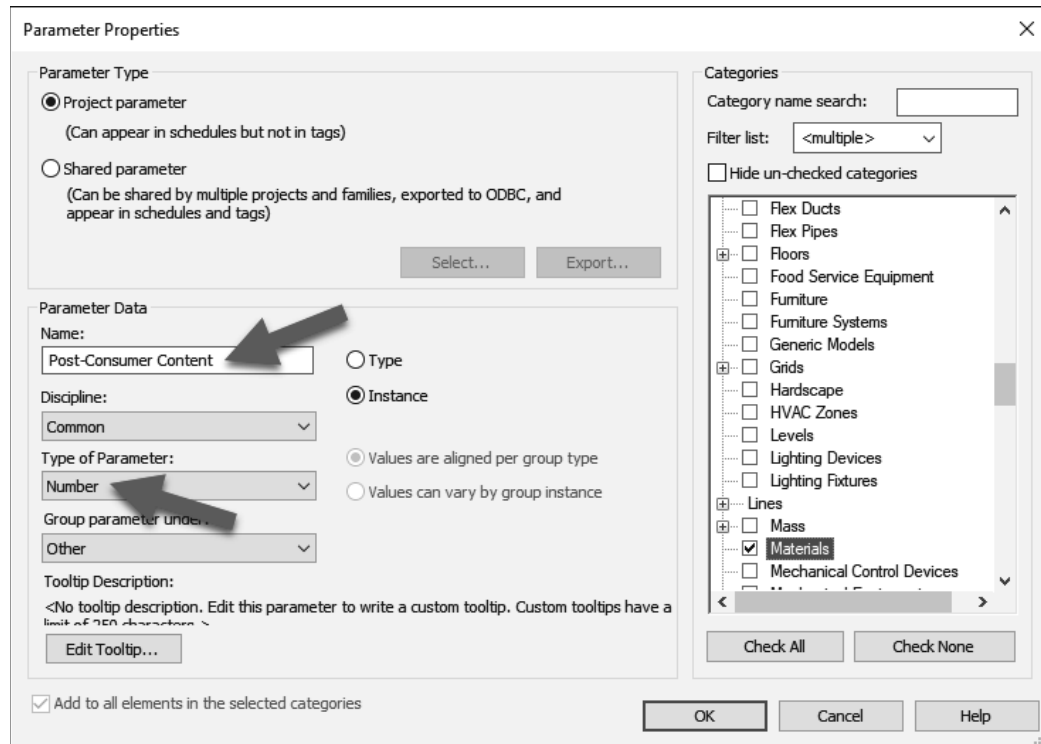

FIGURE 4-5.1 Creating a project parameter
4. Enter the information as shown in Figure 4-5.1 below.